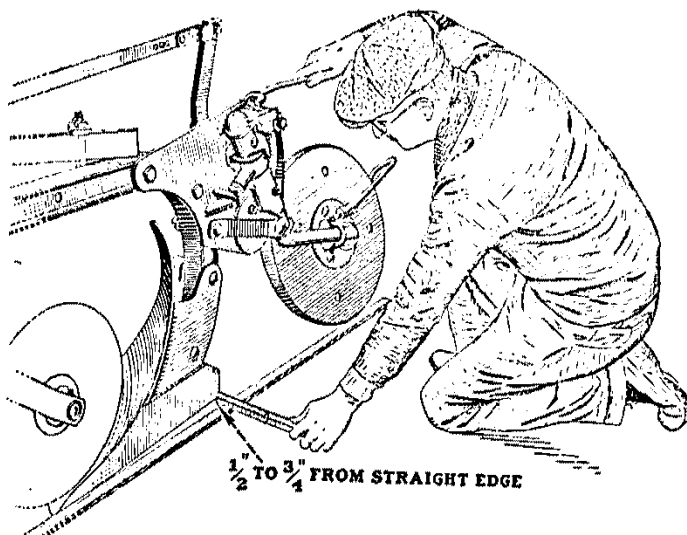

Fig. 14. Adjusting the furrow or rolling landside wheel to eliminate landside pressure.
- b. Set side adjustment on furrow wheel to eliminate landside pressure. With plow in plowing position, adjust rear wheel toward furrow wall until rear end of landside is  $\frac{1}{2}$  to  $\frac{3}{4}$  inch from furrow wall. This adjustment can be made using a straight edge (fig. 14). When the furrow wheel adjustment is properly made the wheel will usually have a slight lead toward the plowed ground. There should be enough clearance so that the forefingers can be placed between the landside and furrow wall when plow is in the ground. Not all three wheel plows have this adjustment.